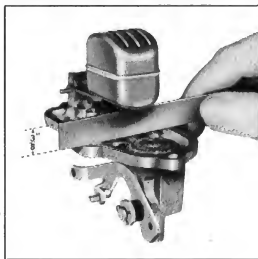

Fig. 8—Checking Float Level
underside of the bowl cover (with the gasket removed) to the top of the float. This measurement should be $\frac{3}{8}$ ". The gauge shown in Fig. 8 is a convenient tool for making this check.
- With the cover turned upside down, check the float level by measuring from the cover to the float. This distance should be $\frac{3}{8}$ ". See Fig. 8.